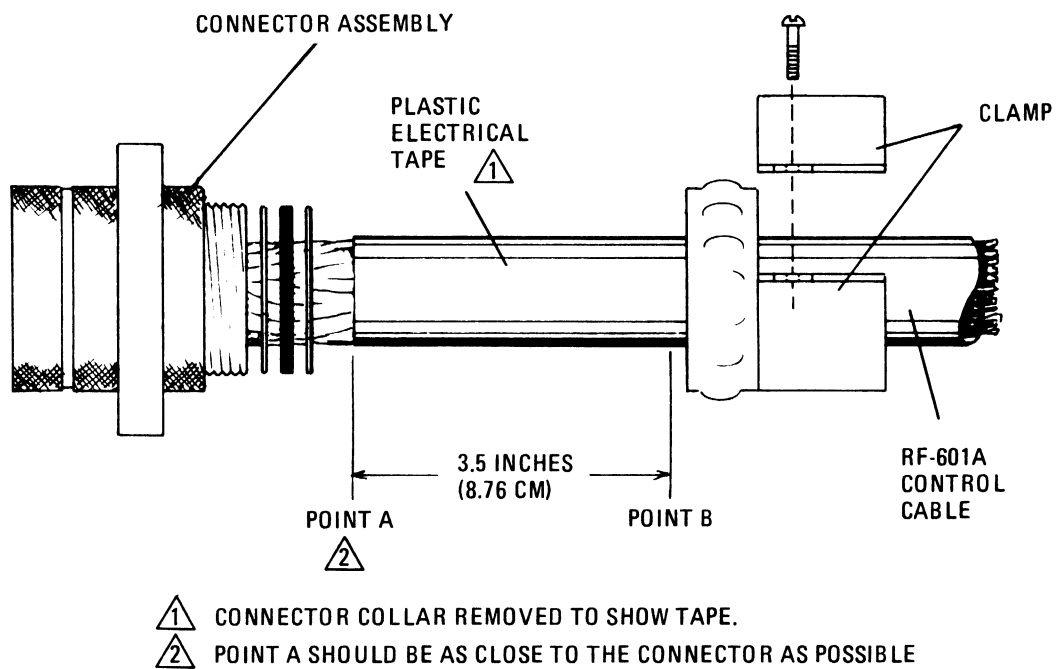

Figure 2.6. Control Cable Waterproofing Diagram.
- a. Unplug cable connector that attaches to J1 on the RF-601A and disassemble connector as shown in figure 2.6.